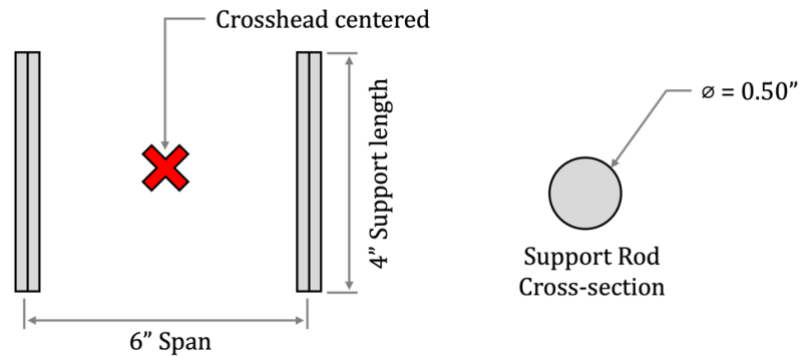

Figure 2 – Placement of Support Rods on ADC Paddle Rest attachment
- i. The supports shall consist of two 4" long cylindrical steel rods of a 0.50" diameter set in v-groove channels 6" apart from centerline to centerline (refer to Figure 2)